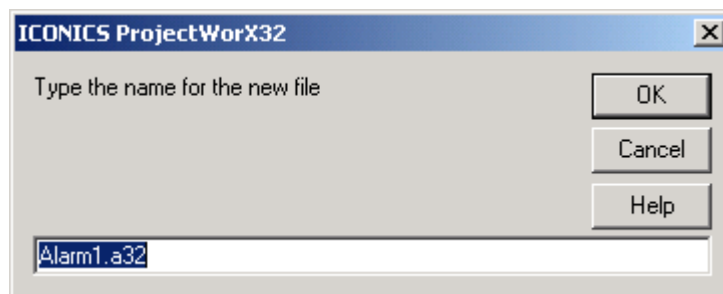

Figure 4.6
2. Give the new file a name, as shown in the **Figure 4.6**. Click OK.